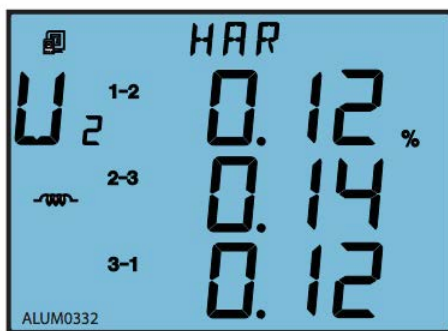

Fig.3-34 2nd harmonic content of line to line voltage
**Note:** When voltage wiring of the meter is set to 2LL or 3LL, line to line voltage harmonic contents will be display instead (as shown in Fig. 3-34).
As shown in Fig.3-34,  $U12\_Hr2=0.12\%$ ,  $U23\_Hr2=0.14\%$ ,  $U31\_Hr2=0.12\%$ .